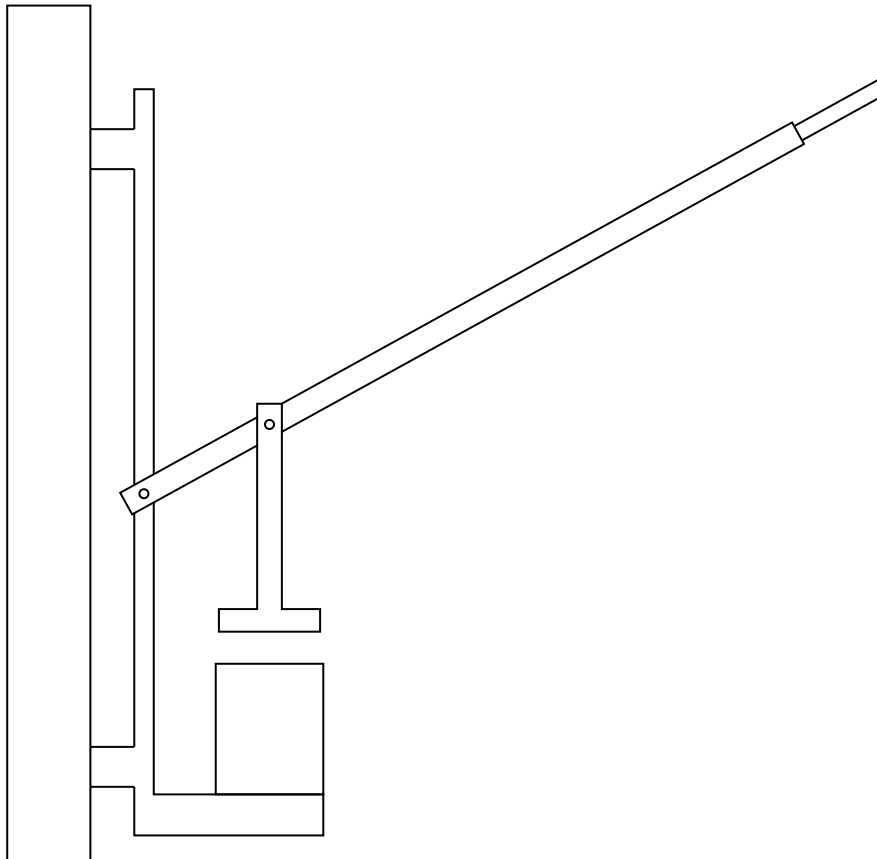

Fig. 3
- (d) Using sketches and notes show on Fig. 3 **three** ways in which the waste paper log maker could be improved.